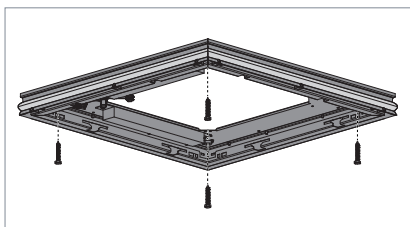

Fig. 4: Screwing the luminaire frame to the ceiling.
- ▶ Screw the luminaire frame to the ceiling using four suitable screws, see Fig. 4.